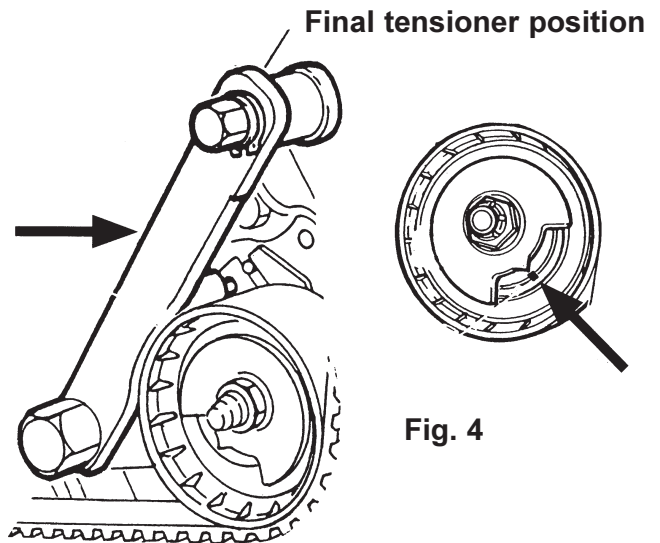

Fig. 4
4.2 VS4522A Tensioner Adjuster (Fig. 4)
After tightening camshaft sprocket bolts, turning engine by hand two revolutions, returning to TDC, and ensuring that all timing marks align, adjust the final position of the tensioner so its pointer is in line with the reference point (fig. 4).